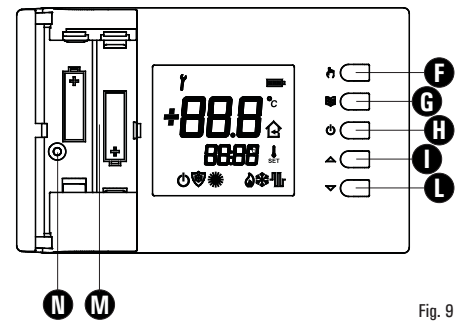

Fig. 9
- 6 Insert the batteries in the battery compartment (N in Fig. 9); see paragraph 'HOW TO INSERT/REPLACE THE BATTERIES'.